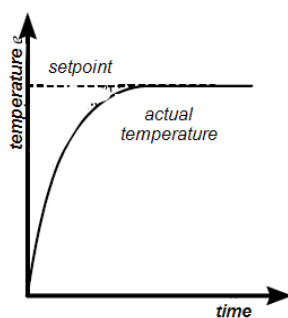

fig 1 - simple control
- Easy use as a simple temperature controller, where on setting the required temperature the controller immediately attempts to reach and maintain it. Fig.1 indicates the type of temperature response when used in this way.
Press RUN/ HOLD for 2 seconds to go into 'Reset' mode. Use down ▼ or up ▲ from the 'Home List' (i.e. when the temperature is displayed) to adjust the setpoint. The unit starts to control in the way indicated in Fig. 1.